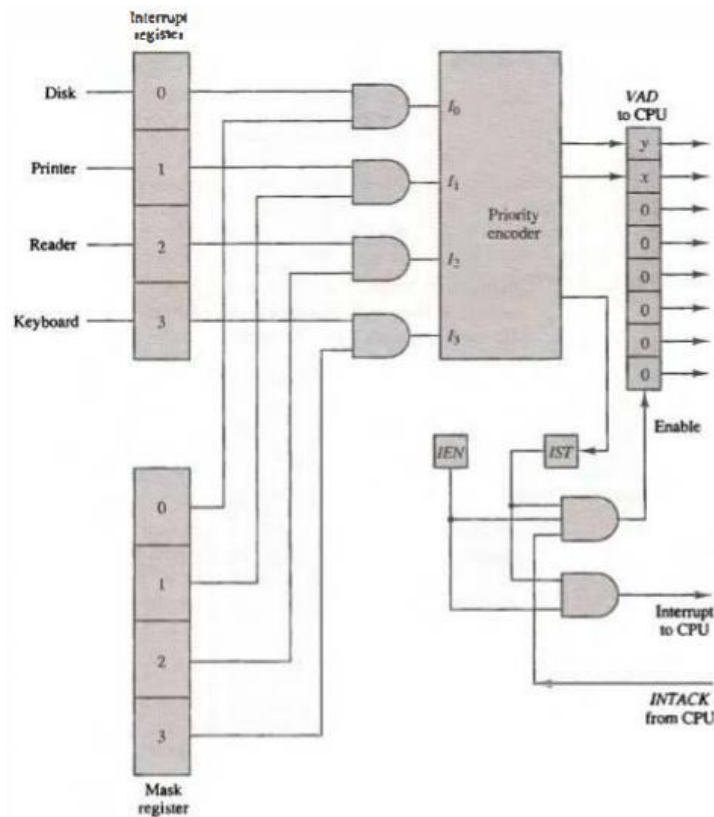

Figure : 14 Priority interrupt hardware.
- **The priority logic** for a system of four interrupt sources is shown in Fig. 14.